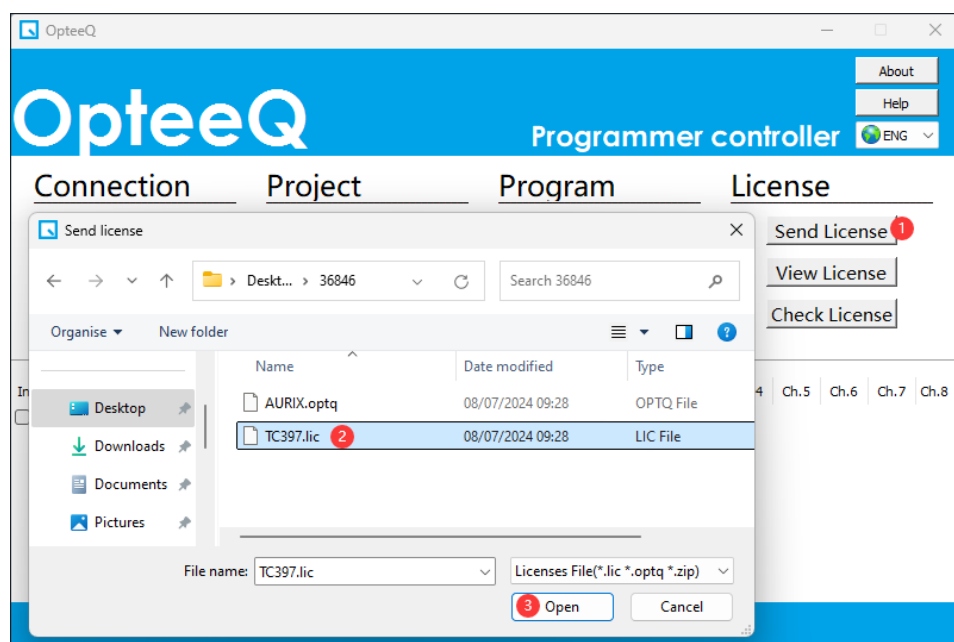

Figure 6.1 License
- 1) Click "Send License"(as shown in Figure 6.1-①).
- 2) Select the license in the dialog box that appears(as shown in Figure 6.1-②)
- 3) Click "Open" to add License (as shown in Figure 6.1-③).